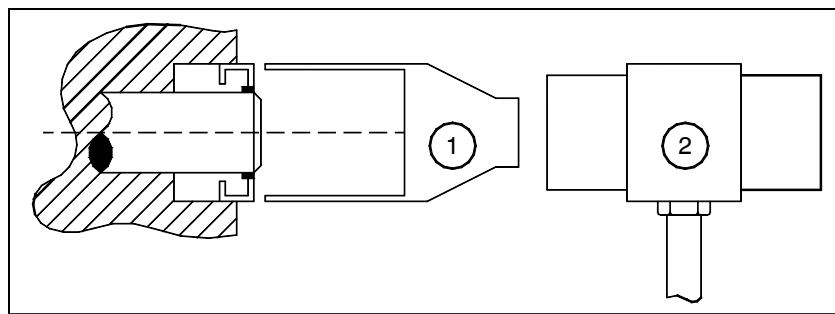

Figure 4.9b
- .1 Use a soft-faced or dead-blow hammer or mallet against an installation tool when installing seals (see Figure 4.9b). This type of tool, like a block of wood, absorbs the shock wave created by the tool's impact. A hammer blow without any material to absorb the shock wave can dislodge the garter spring from its proper operating position. Once the spring is out of position, the seal will fail. The spring can even interfere with the action of the seal lip, or find its way into the bearing.